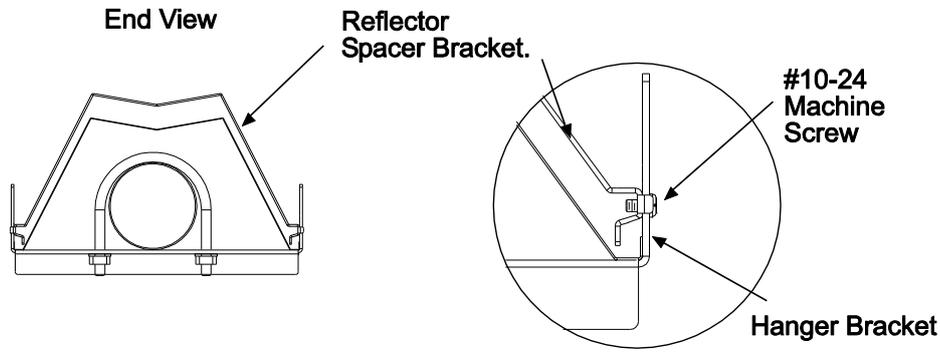

Fig. 22g
9. Attach the **reflector spacer brackets** at each tube support/hanger bracket. using the #10-24 machine screws supplied in fastening kit. See figure 22g below: